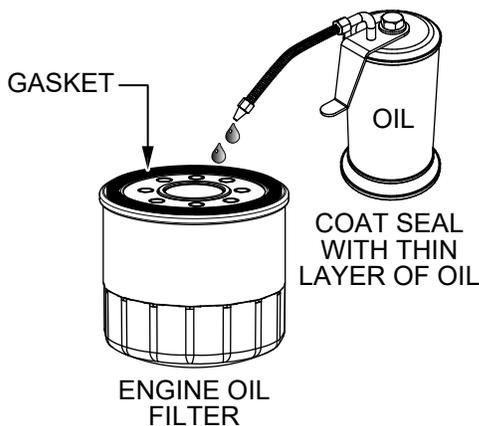

Figure 39. Lubricate New Oil Filter Gasket
9. Lightly coat the **gasket** of the new oil filter (Figure 39) with clean engine oil. Install the new filter by hand until it contacts the engine sealing surface, then tighten it another 1/2 to 3/4 turn. **DO NOT** use a strap wrench or similar tool to tighten the filter.